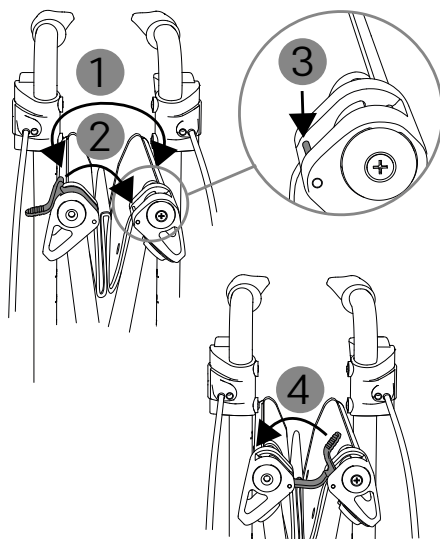

Fig. 9
4. To use the folding lock, press the two seat tubes together to the extent necessary (1, Fig. 9). Then pull the ribbed lever of the folding lock hook upwards so that it can be released from its support. Engage the folding lock hook on the counterpiece on the other side of the rollator (2, Fig. 9) by latching the hook on the pin provided for it (3, Fig. 9).
5. When unfolding the TAIMA VENTUM, release the folding lock hook from the counterpiece (4, Fig. 9) by actuating the ribbed lever.